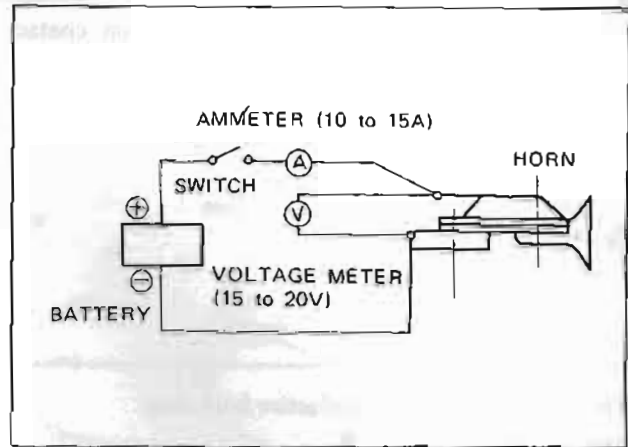

Fig. BE-35 Circuit diagram of horn
1. Apply voltage meter and connect cables as shown in Figure BE-35.